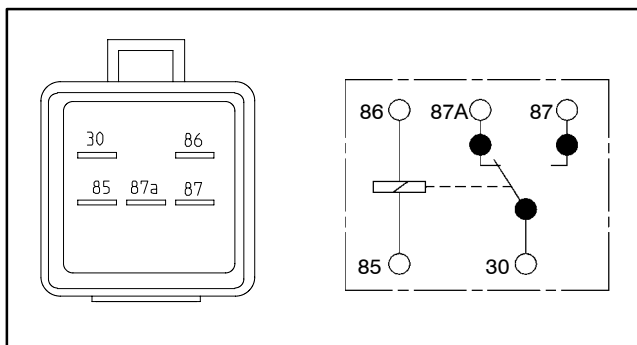

Figure 17
4. Using a multimeter (ohms setting), measure coil resistance between terminals 85 and 86 (Fig. 17). Resistance should be between 70 and 90 ohms.